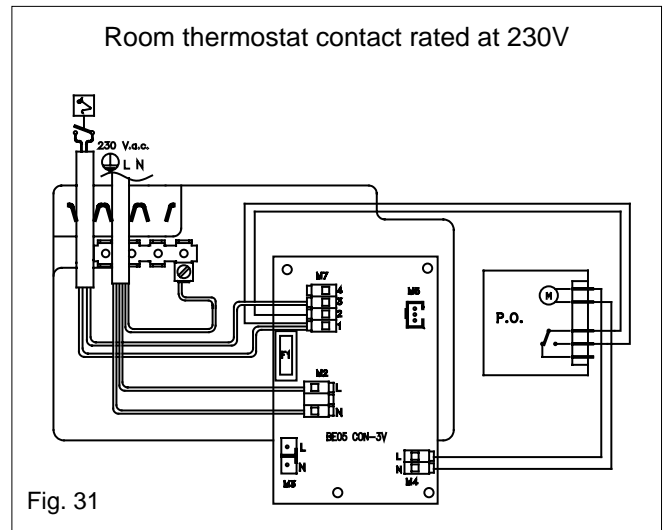

Fig. 31
- Connect the wires to the clock as shown in fig. 31.
- Connect the clock wires to the electrical input board as shown in fig. 31.